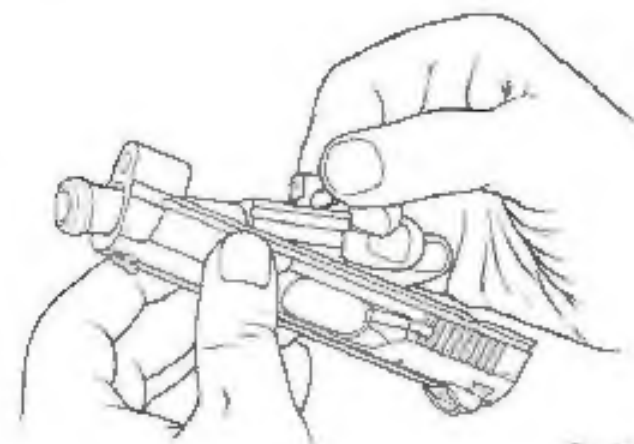

Fig. 10
**Removal of the barrel. (Fig. 10)**